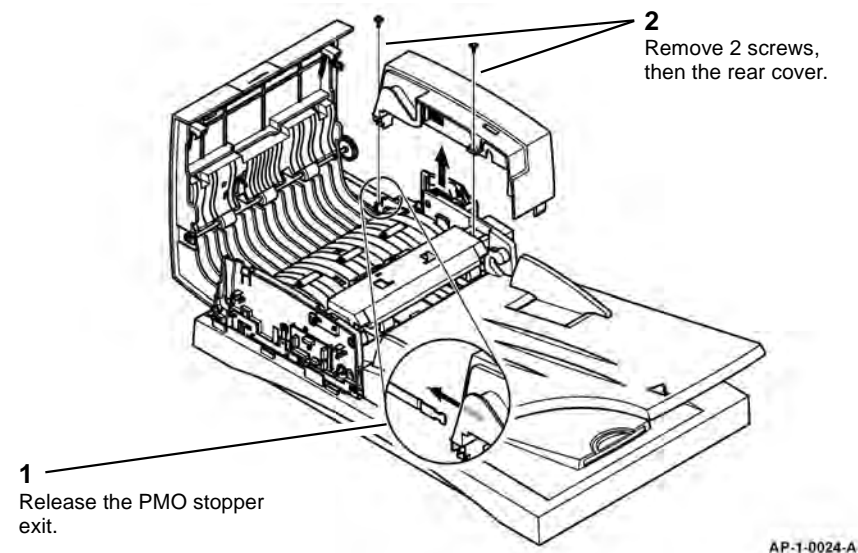

Figure 5 Rear cover removal
6. Remove the rear cover, Figure 5.